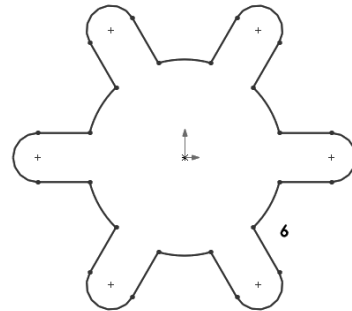

Figure 3-11 Sketch after drawing the outer loop
28. Choose **OK** after trimming. The outer loop of the sketch is created, as shown in Figure 3-11.